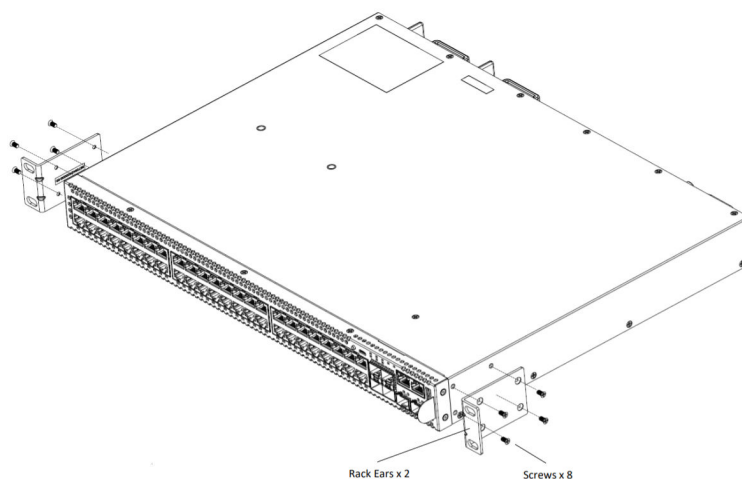

Figure 43: Flush-Mount: Attaching Short Mounting Brackets
- Figure 43 shows a flush-mount configuration using a short mounting bracket.